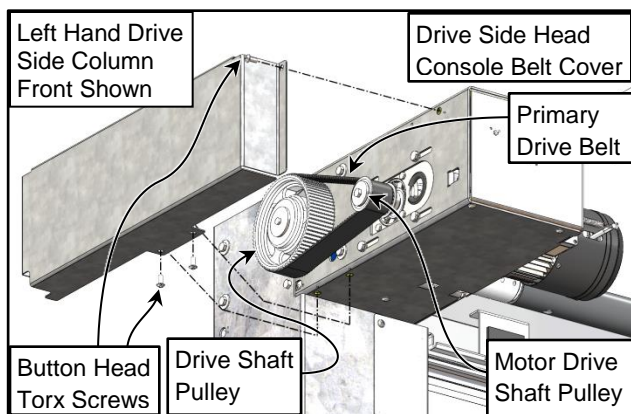

Figure 60
The primary drive belt that runs from the gearbox pulley to the primary drive shaft pulley is located behind the belt guard, on the left end of the head assembly. (See Figure 60)
3. Remove the primary belt guard cover from the drive side head console assembly. It is held in place by Button Head TORX® screws. (See Figure 60)
13. After all adjustments are complete, re-attach the belt guard. (See Figure 60)